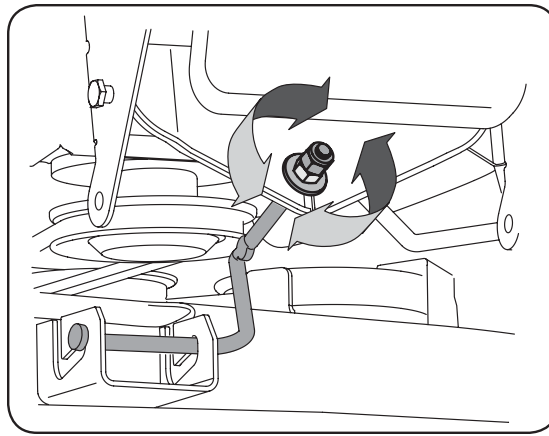
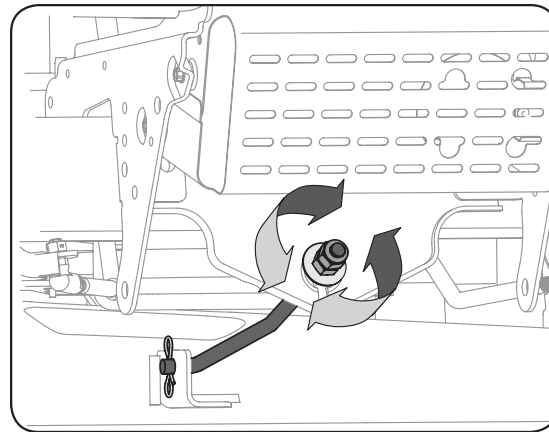

Figure 5-1 (38" & 46" Deck)
Figure 5-2 (42" Deck)
3. Locate the jam nut and lock nut on the front side of the stabilizer bracket. See Figure 5-1 or Figure 5-2. After loosening the jam nut: